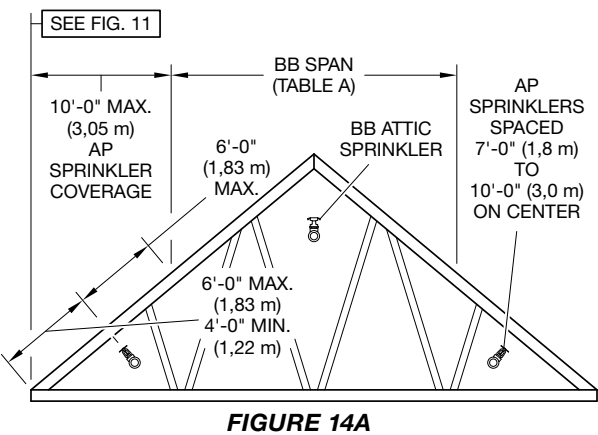
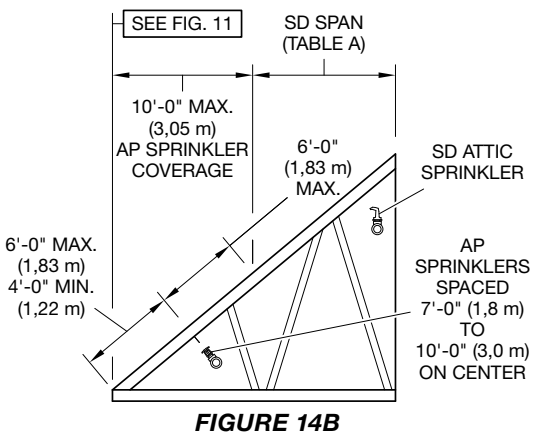

FIGURE 14A
FIGURE 14B
- For single ridge construction (refer to Figure 14A and 14B), use 8.0K, BB Sprinklers to protect the center portion. AP Sprinklers (refer to Figure 14A) or Standard Spray Sprinklers (refer to Figure 14B) are then used to protect up to 10 ft (3,1 m) of width at the eaves beyond the maximum allowable 60 ft (18,3 m) span of the 8.0K, BB Sprinklers.